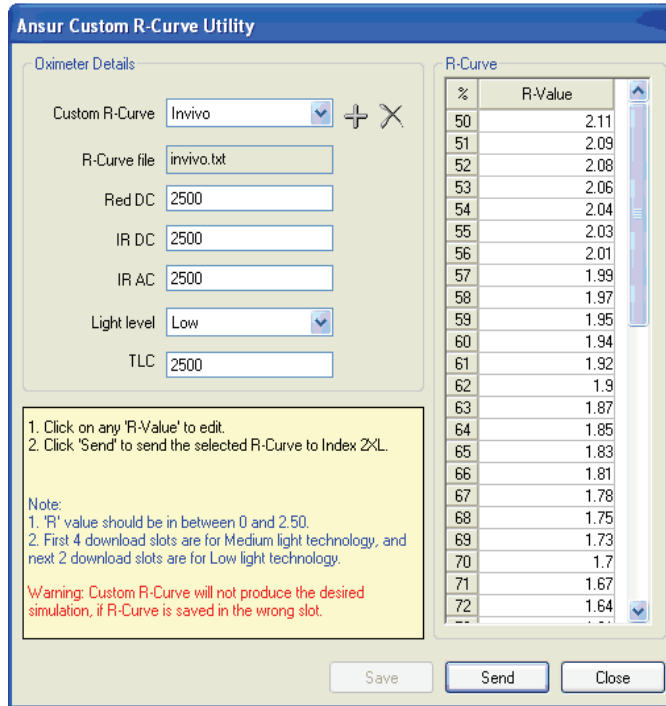

Figure 2-8. Custom R-Curve window
display the **Ansur Custom R-Curve Utility** window shown in Figure 2-8.
1. Start the Ansur Test Executive program. Click **Tools | Custom R-Curve** to display the **Custom R-Curve** window shown in Figure 2-8.
1. Start the Ansur Test Executive program. Click **Tools | Custom R-Curve** to display the Custom R-Curve window shown in Figure 2-8.